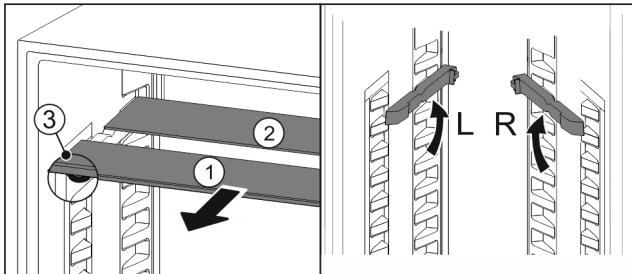

Fig. 17
- Pull the glass panels out *Fig. 17 (1)* from the front, one at a time.
- ▷ The glass panel *Fig. 17(1)* and trim strip are at the front.
- ▷ The stops *Fig. 17(3)* point down.